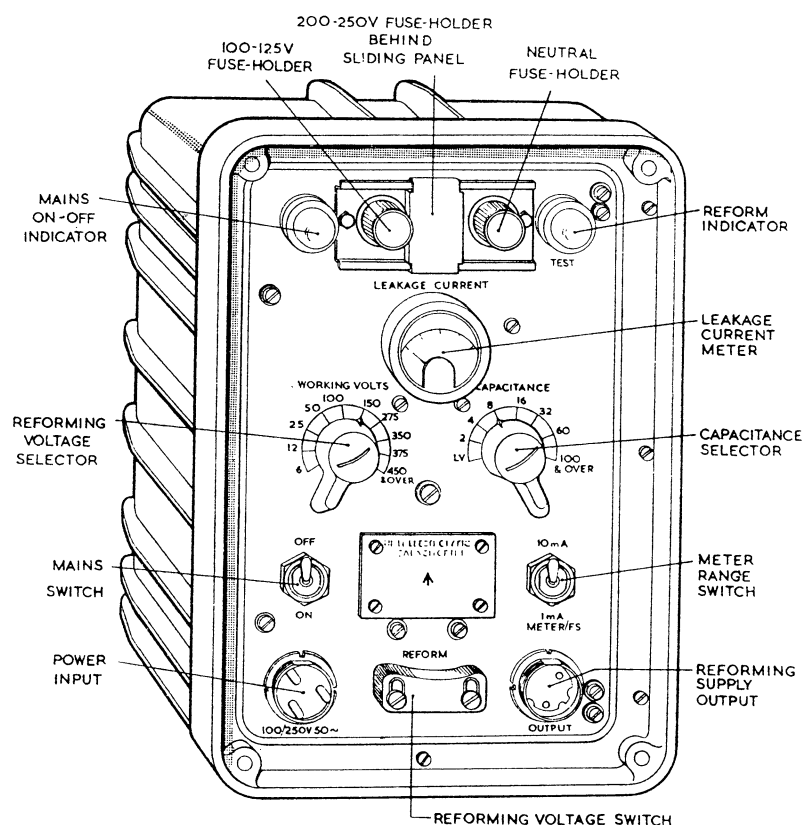

Fig. 1. Reforming units, electrolytic capacitor, No. 1 equipment
2. The instrument is housed in a sturdy case of cast aluminium (*fig. 1*). Seals are introduced between this case and the front panel, and also at the meter, control-spindle and all other openings in the panel, to prevent the ingress of dust and moisture. Two desiccator units are fitted in the bottom of the case to absorb any residual moisture from the case interior.